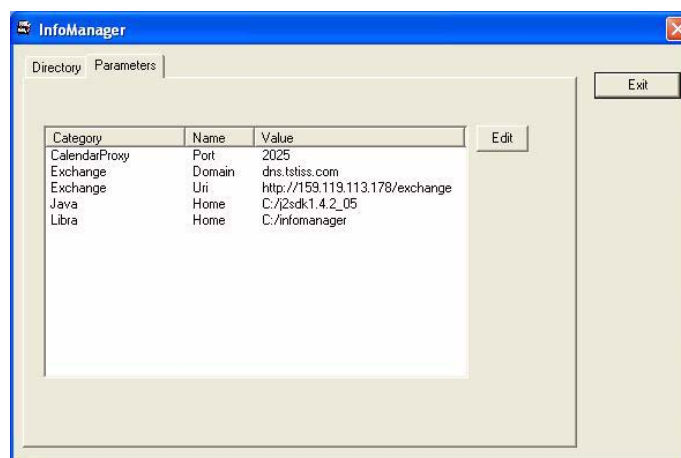

Figure 3-2 Parameters Tab Screen (with sample data)
7. When the installation is complete, the install program runs the Info Manager application and displays the database screen (see Figure 3-2). You can choose to program the settings and parameters at this time (follow Step 2) or select Exit to complete the Installation Wizard.
1. From the Info Manager screen (see Figure 3-2 on page 3), select the Parameters tab.